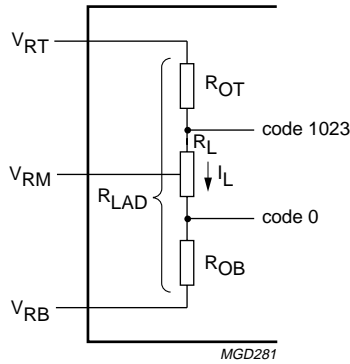

Fig.3 Converter reference resistor ladder.
- In order to ensure the optimum linearity performance of such converter architecture, the lower and upper extremities of the converter reference resistor ladder (corresponding to output codes 0 and 1023 respectively) are connected to pins V_{RB} and V_{RT} via offset resistors R_{OB} and R_{OT} as shown in Fig.3.